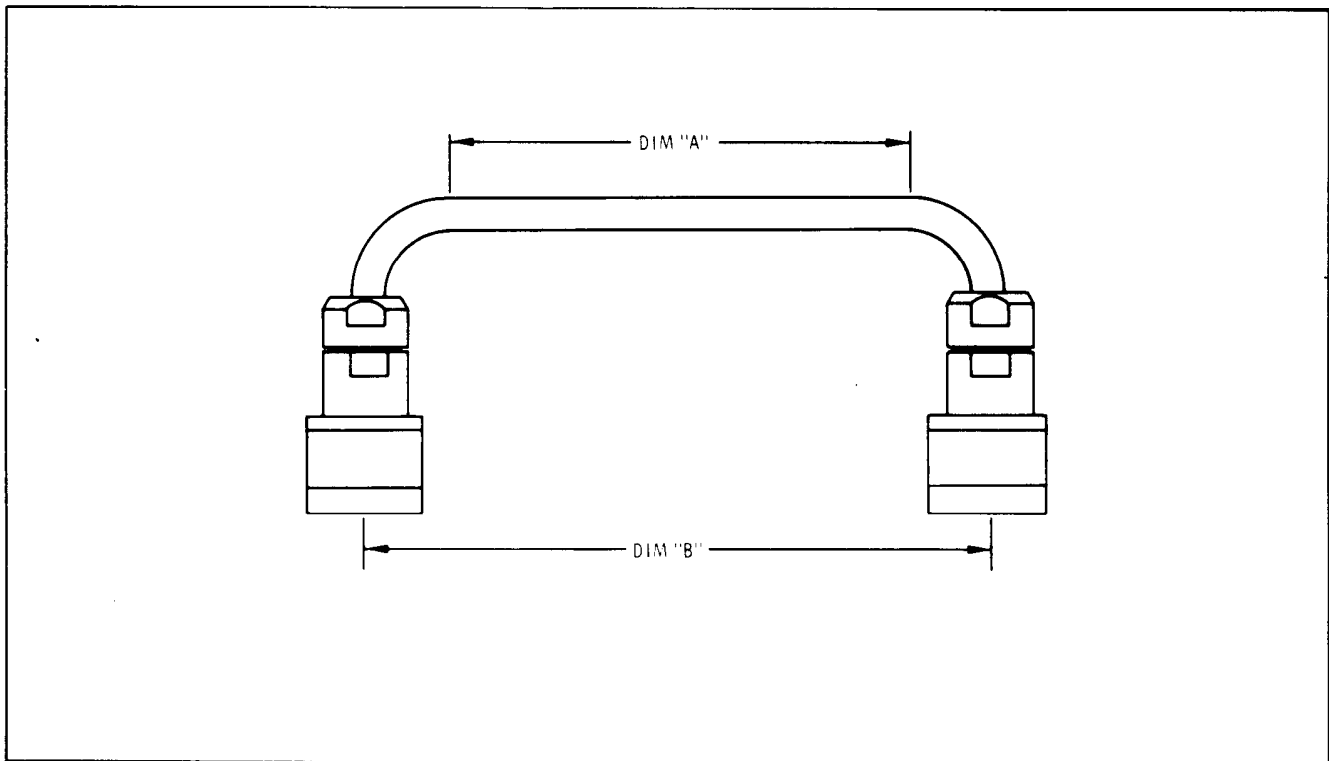

Figure 1-4. RF Interconnect Cable
1-24. Operating accessories for use with the Preselector are listed in Table 1-4. Operating accessories include various lengths of rigid coaxial cable for interconnecting the Preselector with the Spectrum Analyzer. See Table 1-4 for cable length and connector type. Cable dimensions are illustrated in Figure 1-4.
**See paragraph 1-24 and Figure 1-4. ITEM NOT SUPPLIED WITH OPT OSD